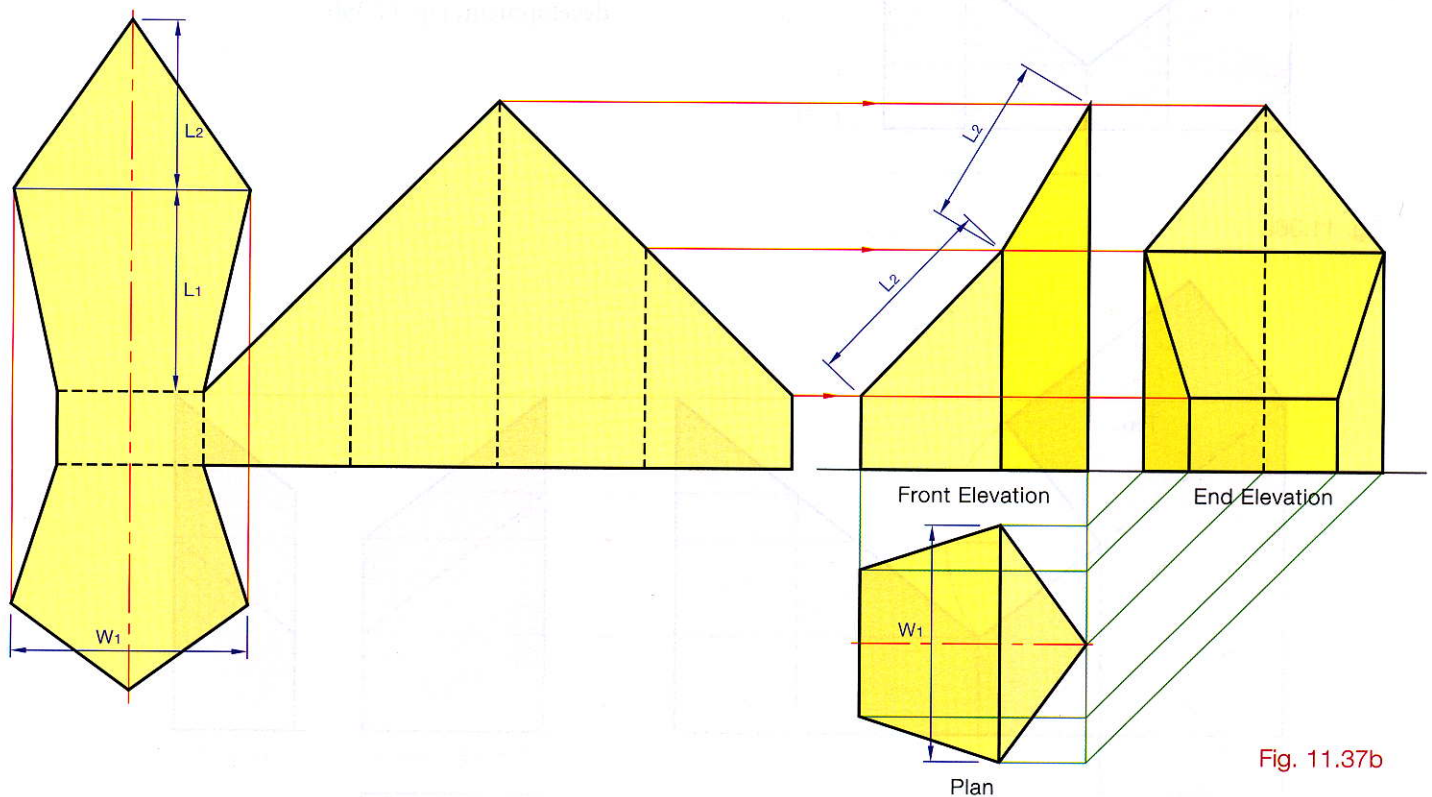

Fig. 11.37b
- (1) Draw the development.
- (2) Draw the base of the development and the plan.
- (3) Project the elevation from the plan and from the development.
- (4) Project the end view.
- (5) Find the true shape of the cut surfaces by taking widths from the plan and lengths from the elevation, Fig. 11.37b.